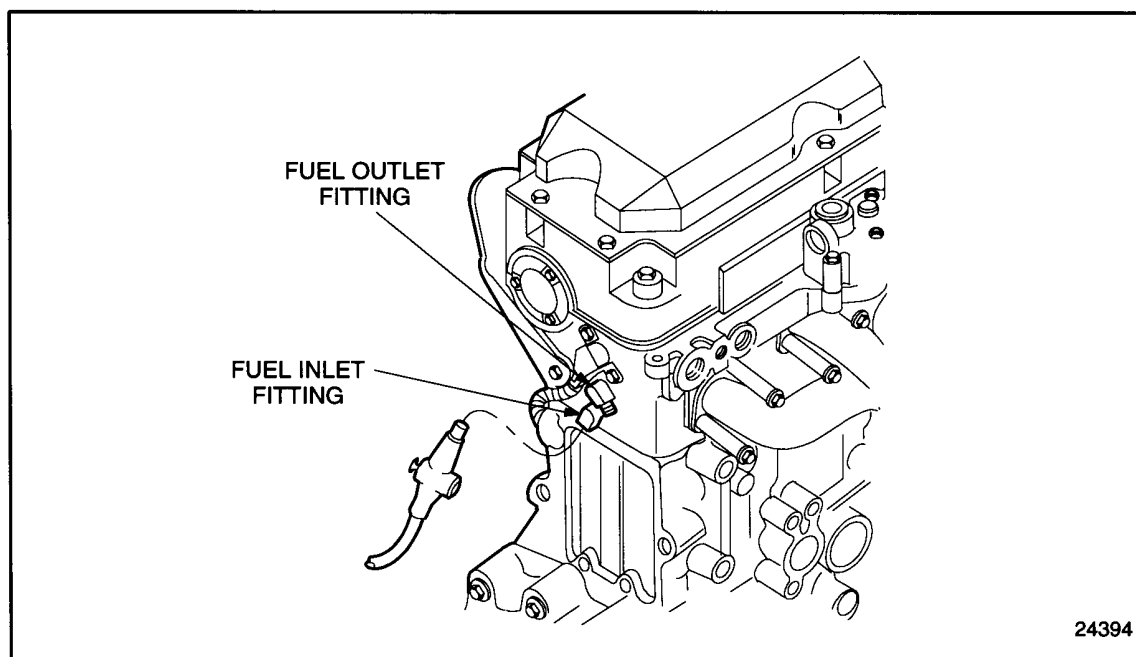

Figure 1-32 Removing Fuel from Cylinder Head Internal Passages
18. Disconnect the fuel inlet and outlet lines at the rear of the cylinder head. See Figure 1-32.